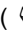

Fig. 52: Insert process connection (inlet)
- 6.** ➤ Insert the process connection (inlet) into the device body (inlet) (Fig. 52)